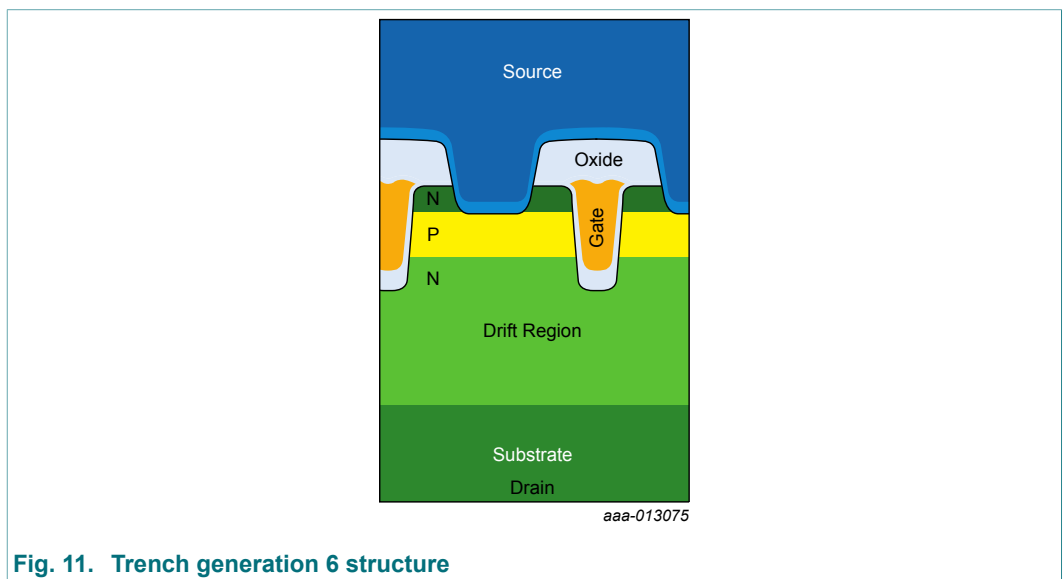

Fig. 11. Trench generation 6 structure
Fig. 11 shows the structure of a Trench generation 6 device. The parasitic bipolar inhibition is particularly good in this structure due to the very short base to emitter length. The source metal short-circuits the p-n junction near the source contact, making it difficult to get a V_{BE} high enough to turn on the parasitic BJT.
7.9. Q: In a half-bridge configuration one MOSFET is driven off, and the second MOSFET begins to turn on. The first MOSFET that should be off is turning back on again causing cross conduction and an overcurrent peak. What could be the cause? See Figure 11 for phenomena.